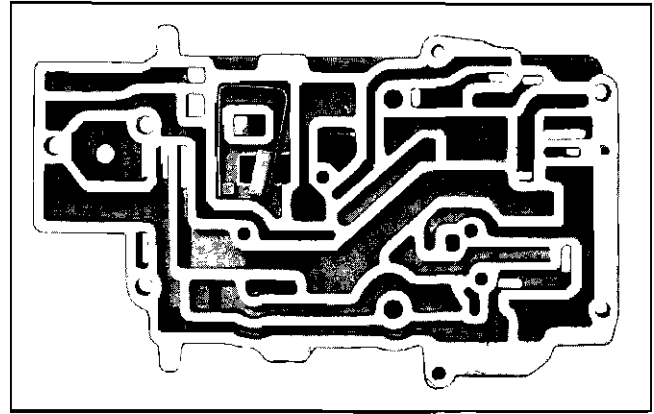

Fig. 139 Coupling Fill Thermostat Installed
1. Place the coupling fill thermostatic element in channel plate (Fig. 139).